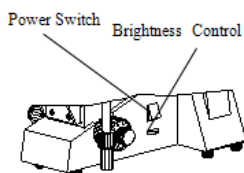

Figure 3
- 2) Turn on the light with the power switch, see figure 3. If the light does not appear to be ON, check the brightness control to see if it's on a sufficiently low setting.